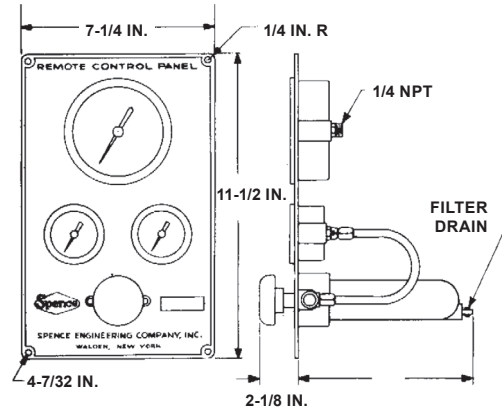

Figure 3. Type B Panel (cut out 10-1/4 in. high by 6 in. wide)
2. On instantaneous heaters with steam in the shell, tap the control pipe into shell. See Figure 3. Otherwise, enter delivery steam pipe at point of entrance to heater.